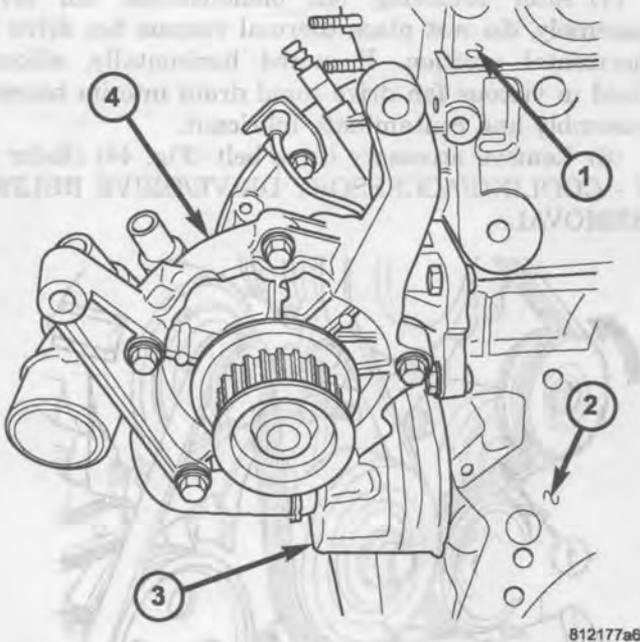

Fig. 45 WATER PUMP
- (1) Disconnect negative battery cable.
- (2) Drain cooling system (Refer to 7 - COOLING/ENGINE/COOLANT - STANDARD PROCEDURE).
- (3) Remove timing belt inner and outer covers (Refer to 9 - ENGINE/VALVE TIMING/TIMING BELT / CHAIN COVER(S) - REMOVAL).
- (4) Remove water pump retaining bolts and pump (Fig. 45).